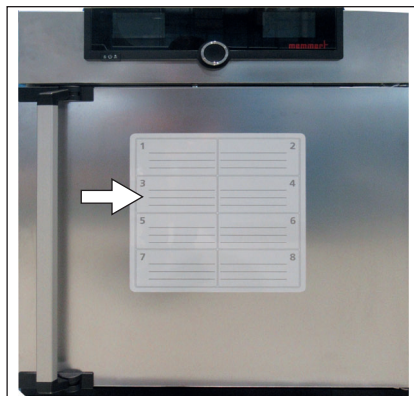

Fig. 12 Magnetic foil
6. Attach magnetic foil to the door (Fig. 12).